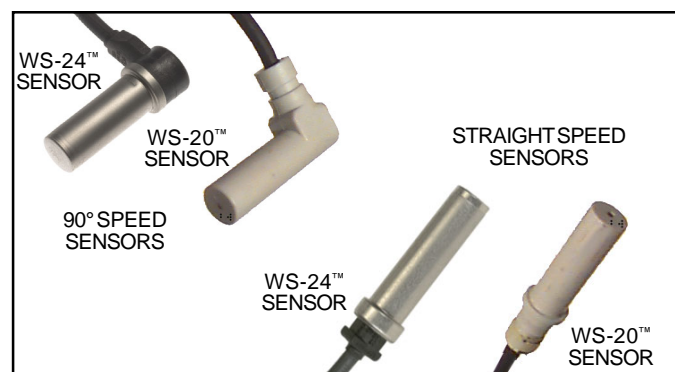

FIGURE 4 - WS-20™ AND WS-24™ WHEEL SPEED SENSORS
- **Wheel speed** information is provided to the EC-17™ controller via a wiring harness from individual wheel speed sensors at the vehicle wheels (See Figure 4). Working with an exciter or tone ring, wheel speed sensors provide information to the EC-17™ controller in the form of an AC signal which varies in voltage and frequency as the speed of the wheel increases or decreases. The EC-17™ controller is designed to receive wheel speed information, from various wheel speed sensor models, at the rate of 100 pulses (86 pulses if so configured) per wheel revolution. The EC-17™ controller is able to simultaneously receive, and individually interpret, speed signals from up to six wheel speed sensors. Vehicle drive configuration and whether the traction control feature is in use determines the number of speed sensors that must be used. A vehicle with a single rear axle drive (4 x 2, 4 x 4 or 6 x 2) requires 4 speed sensors for both antilock and traction operation. A vehicle with two rear drive